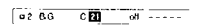

Fig. 8
- 5 Then press OK. The CH position will be highlighted. (See Fig. 8)